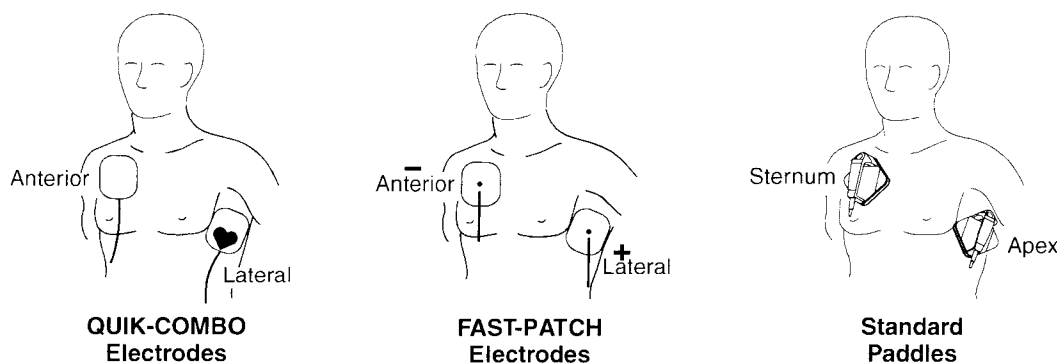

Figure 3-1 Anterior-lateral Placement
- 1 Place either the ♥ or + therapy electrode or the apex paddle lateral to the patient's left nipple in the midaxillary line, with the center of the electrode in the midaxillary line, if possible. See Figure 3-1.
- 2 Place the other therapy electrode or sternum paddle on the patient's upper right torso, lateral to the sternum and below the clavicle as shown in Figure 3-1.